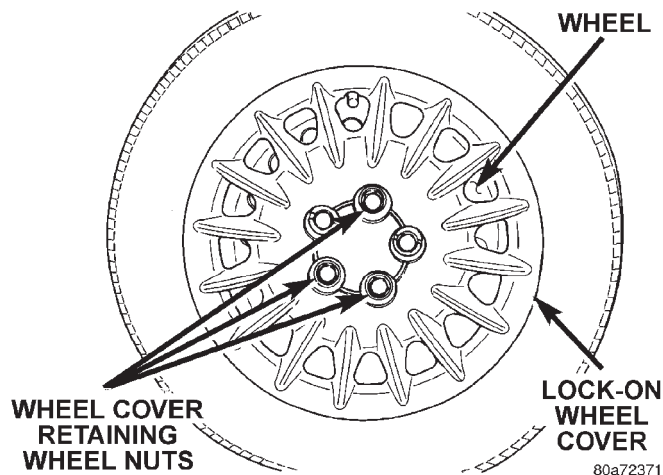

Fig. 15 Wheel Cover Locking Nuts
(1) Remove the three wheel nuts, (Fig. 15) used to lock the wheel cover to the wheel.
(3) Press in on center of wheel cover until retaining tabs on wheel cover engage with wheel nuts. This will hold the wheel cover to the wheel.
(4) Install the three remaining wheel nuts (Fig. 15).